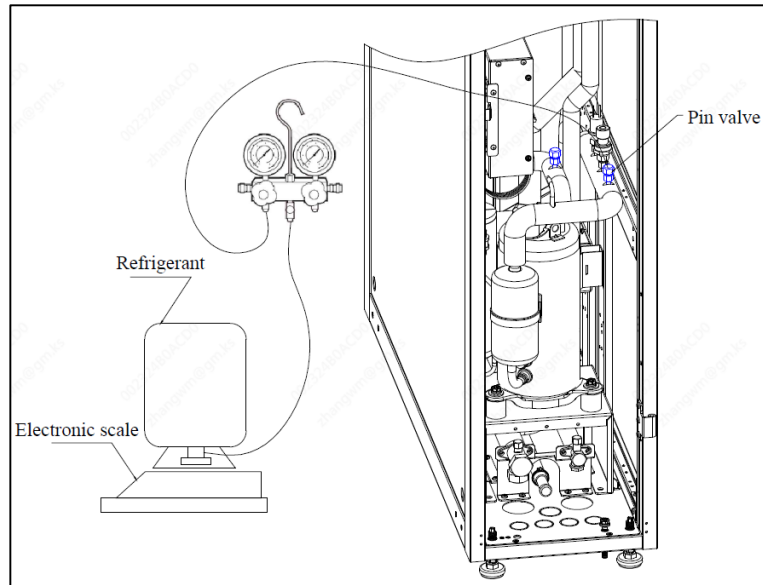

Fig. 4-2-1 Dynamic refrigerant charging
(1) If the static charging of the refrigerant does not reach the calculated charging amount, it is required to perform dynamic charging as follows:
- a. As shown in Fig. 4-2-1, connect the refrigerant cylinder, pressure gauge and the needle valve on the compressor suction pipe through the refrigerant hoses;